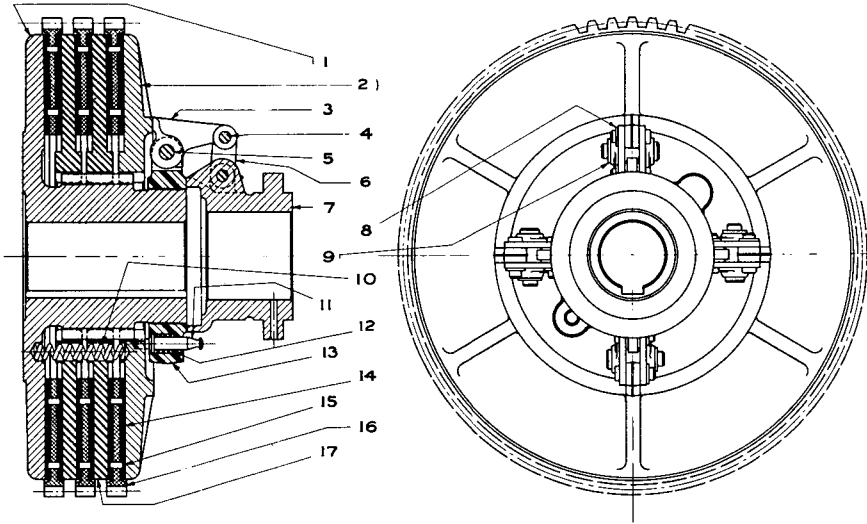

Fig. 29 - Forward and Reverse Clutch
**FORWARD AND REVERSE CLUTCHES (Figure 29)****REMOVAL**
ADJUSTMENT OF FORWARD AND REVERSE CLUTCH (Figure 29)